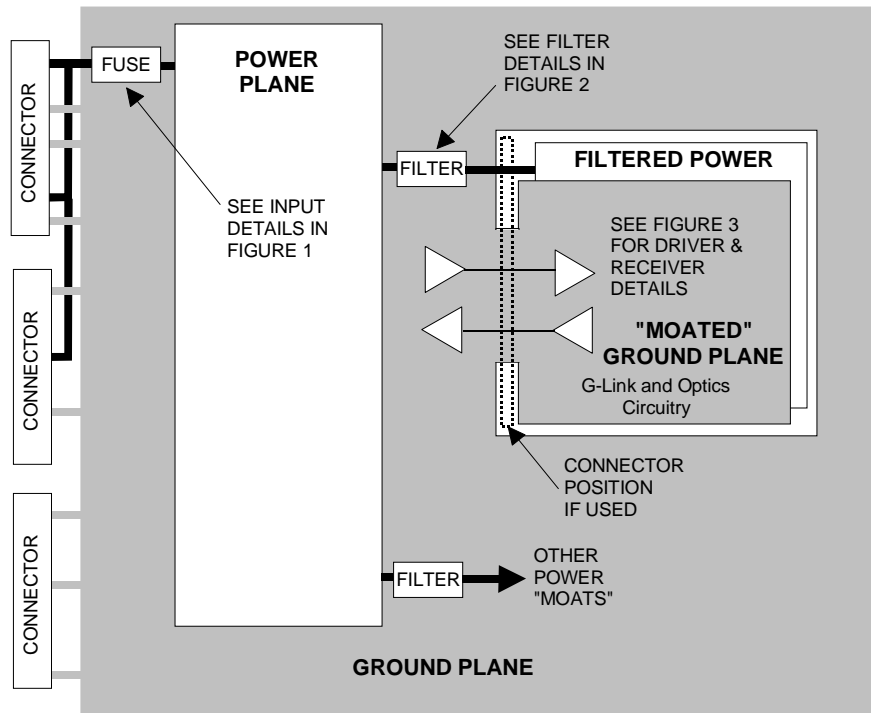

Figure 2
- A. To prevent electrical noise in the 10s to low 100s of Megabytes per second range from getting into or out of circuitry blocks (e.g., G-Link IC, Finisar optics, ECL/TTL translators, etc. filter each voltage into these blocks separately (see Figures 2 and 4).
- B. Use the moated ground technique as shown in Figure 2.